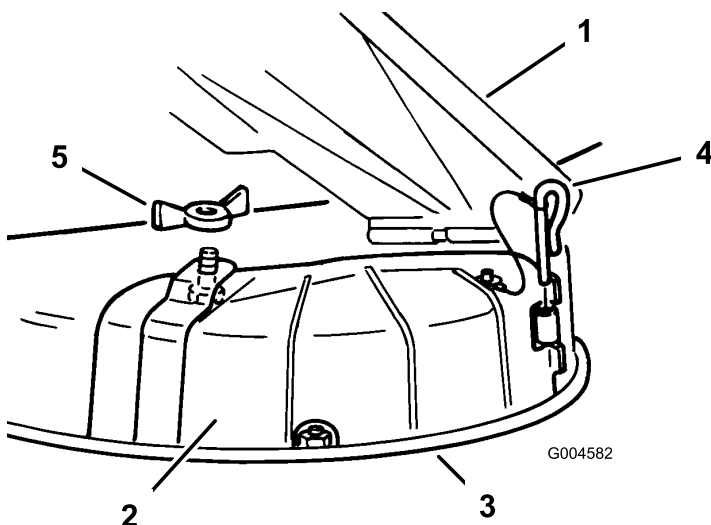

Figure 21
- Remove the wing nut and bolt securing the cover in place (Figure 21).
- Remove the hinge pin securing the cover to the deck (Figure 21).
- Lift the grass deflector and place the discharge cover over the opening onto the lower lip of the mower and slide it into the front hinge (Figure 21).
- Slide the hinge pin through the hinge (Figure 21).
- Secure the discharge cover to the mower with the wing nut (Figure 21).